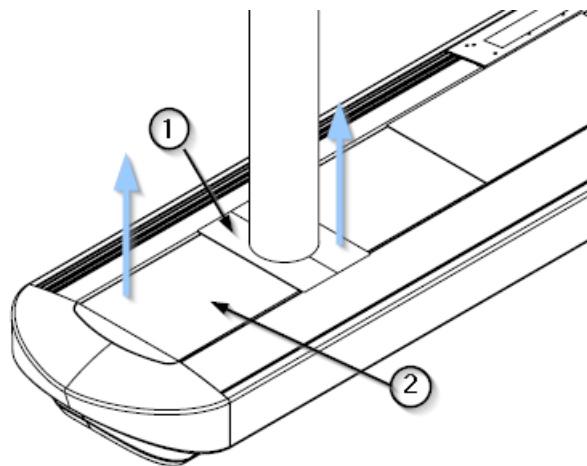

Fig. 8 Removal of main body covers
- Using a flat-nosed tool and taking care not to damage the paint on the top covers, remove the bottom covers of the downpipes ①, these are press-fitted. See figure 8.
- Now remove the upper covers of the main body ② which are also snapped on by hand. See figure 8.